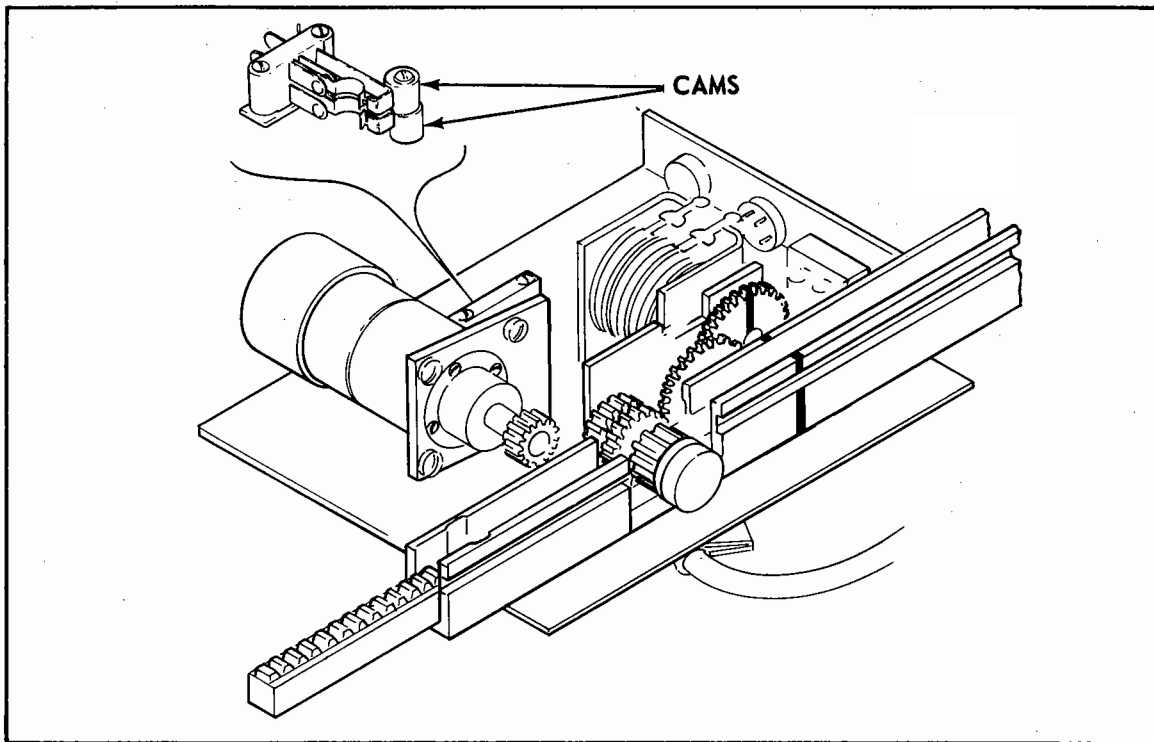

Figure 10-3. Switch Adjustment Cams
# 10-5. ADJUSTMENT OF PITCH SERVO SELECTOR SWITCH AND PITCH AUTOPILOT SERVO MOTOR SWITCH. (Refer to Figure 10-3.)
- a. Switch Adjustment Procedure. (Refer to Figure 10-3.)